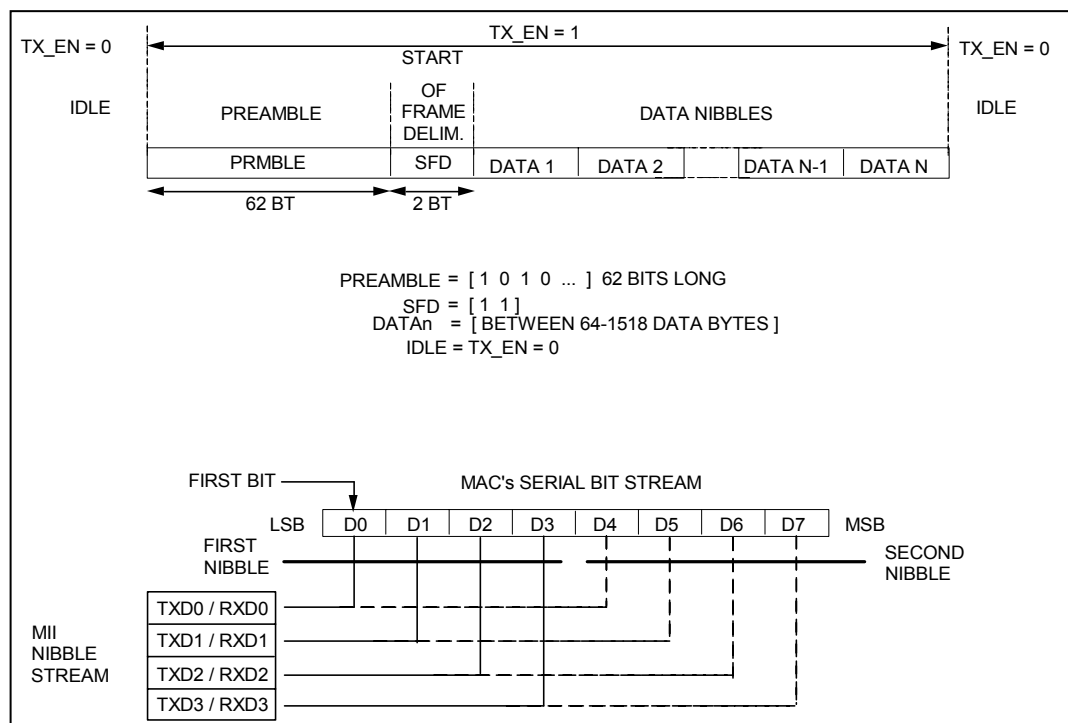

Figure 6.2 - MII Frame Format & MII Nibble Order
The MII is a nibble wide packet data interface defined in IEEE 802.3. The LAN91C113 meets all the MII requirements outlined in IEEE 802.3 and shown in Figure 6.2.
Data recovery is performed by latching in data from the TP receiver with the recovered clock extracted by the PLL. The data is then converted from a single bit stream into nibble wide data word according to the format shown in Figure 6.2.
The clock recovery process for 10Mbps mode is identical to the 100Mbps mode except, (1) the recovered clock frequency is 2.5 MHz nibble clock, (2) the PLL is switched from TX25 to the TP input when the squelch indicates valid data, (3) The PLL takes up to 12 transitions (bit times) to lock onto the preamble, so some of the preamble data symbols are lost, but the dock recovery block recovers enough preamble symbols to pass at least 6 nibbles of preamble to the receive controller interface as shown in Figure 6.2.